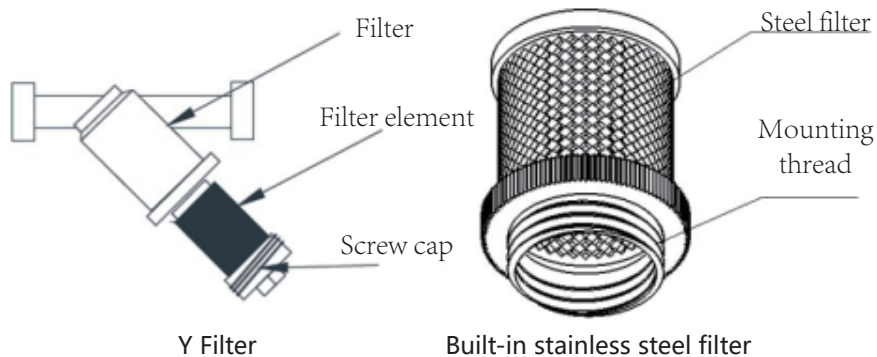

Figure 8. Two filters commonly used in our company
- ◆ Regular cleaning filters in the waterway of equipment within 7~10 days generally. The company commonly used two filters as shown in figure 8. The Y filter is placed in the water pump or equipment outlet, built-in stainless steel filter placed in the water tank;